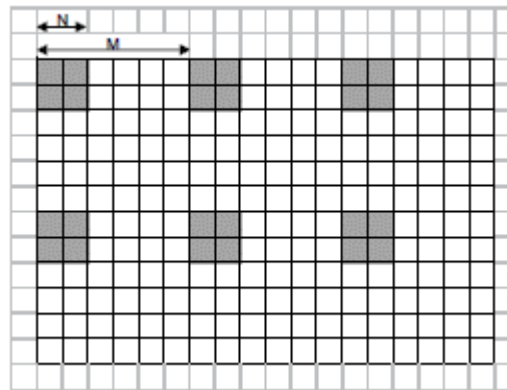
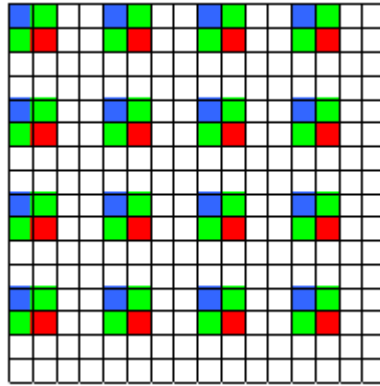

Figure 52: Monochrome subsampling with $N = 2$ and $M = 6$.
Figure 53: Color subsampling with $N = 2$ and $M = 4$.
Cheetah cameras provide a flexible subsampling capability. You define the number of sequential pixels to read out (N) and the total number of pixels of the contiguous area (pixels readout + pixels skipped) (M). The subsampling decimation factors (N and M) apply along both rows and columns as shown (Figure 52 and Figure 53). The camera adjusts AOI size depending on subsampling factor, averaging factor, and the presence of a color filter array on the image sensor.